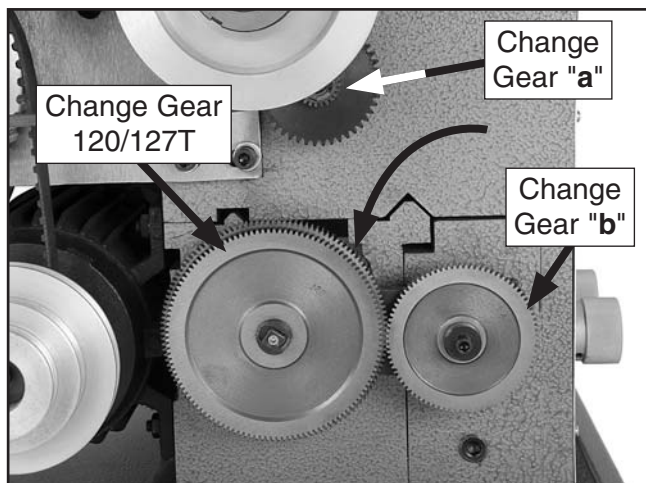

Figure 43. Change gear pivot arm in lowered position.
- a. Loosen the cap screw securing the pivot arm, then lower it to disengage the 120/127T gear from change gear "a" (see **Figure 43**).